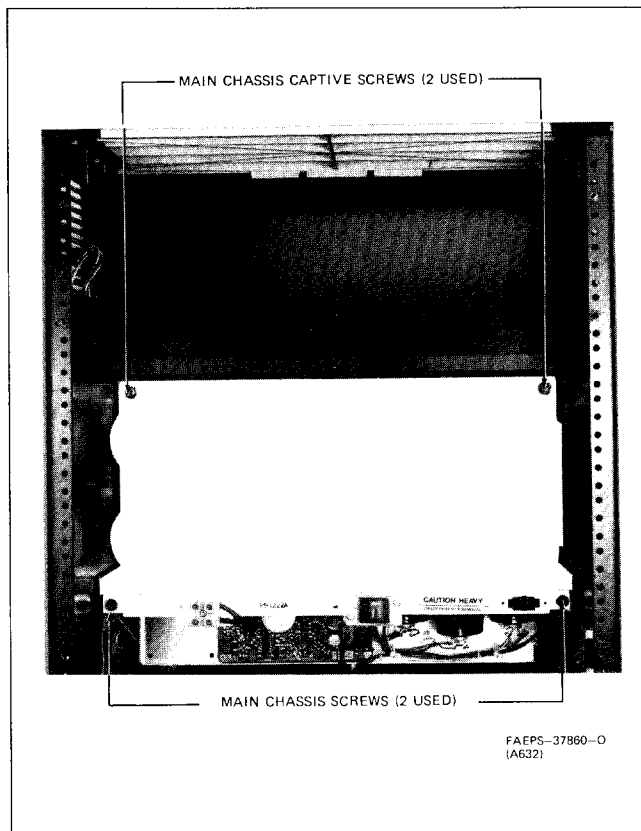

Figure 2. Power Supply Mounting Hardware
4.3 AUXILIARY REGULATOR CHASSIS REMOVAL (Refer to Figure 2)
(Refer to Figures 2 thru 5)